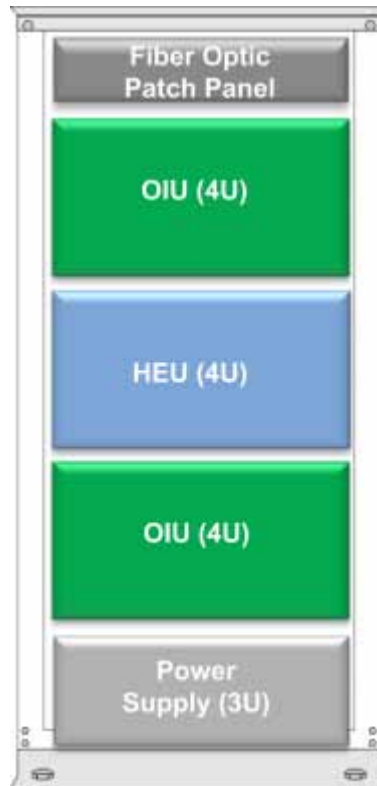

Figure 4-1. Example of Communication Rack Installation
- Verify that the rack height can support all the units to be installed, where you may also want to consider future installations. Figure 4-1 shows an example of a rack configuration for the RF path components at the headend which facilitates and simplifies the cabling connections.